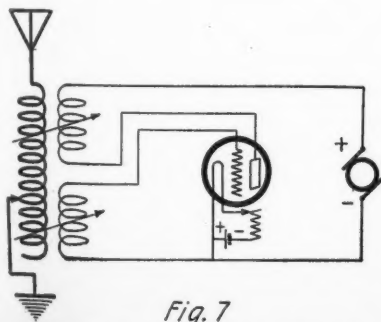

Fig. 7
2. *Series Circuit.* In this circuit, one form of which is shown in Fig. 7, the direct current plate supply is connected in series with the plate coil. The operation of this circuit is essentially the same as that of the shunt, except that it does not require the use of a radio frequency choke coil. It also has the same different modifications the shunt circuit has, and there is very little difference between the two modes of connecting the D.C. supply. Details of the circuit will be gone into in succeeding articles when the actual design is considered.